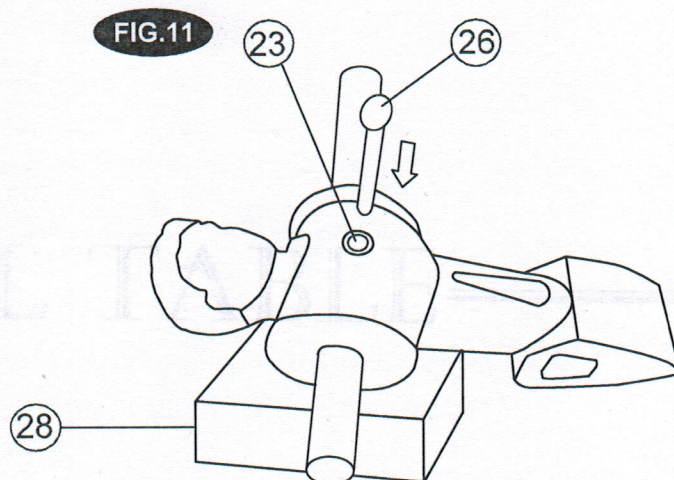

FIG. 11: PLAYER MAINTENANCE
- Take down the Player Rod ,knock the Roll Pin (#26) out , then attach the spare Players and Roll Pin to this Player Rod . See Fig.11. Use the Roll Pin Punch (#23) provided .